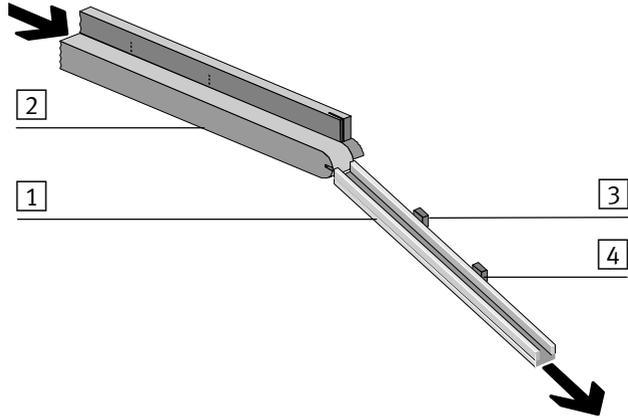

Fig. 3/7: Buffer zone check with switching delay
With CheckKon, the CHB-C-N can be configured for operation either with one buffer zone sensor or for switching delay of the small parts conveyor with two buffer zone sensors (Fig. 3/7): Menu [View][System parameter] ◇ Transporting systems ◇ Continuing systems ◆ Number of buffer zone sensors = 1 (2).